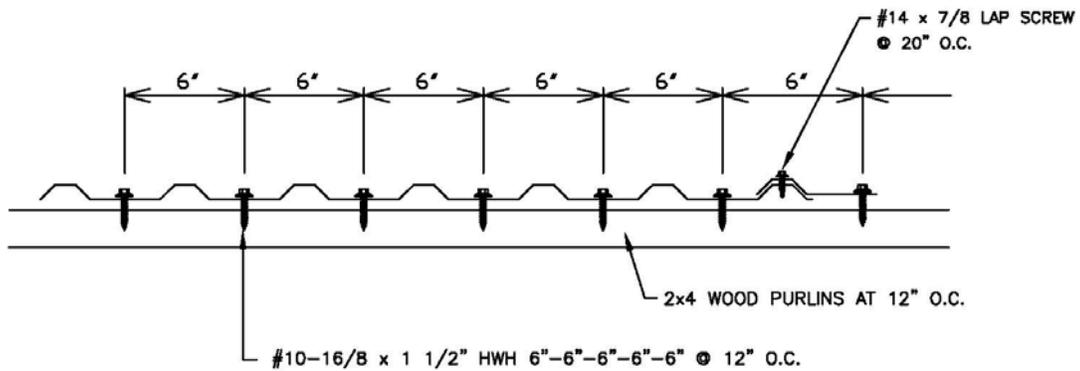

Figure 3. U Panel Metal Roofing Panel Secured to 2 x 4 Wood Purlins
**Roofing Panels to the 2x4 Wood Purlins:** Minimum No. 10-16/8" x 1" long, Kwikseal Woodbinder screws, manufactured by Sealtite. The required fastener pattern as well as the maximum allowable spacing for the pattern is specified in Table 3. Refer to Figure 3 for an illustration of the required fastener pattern.